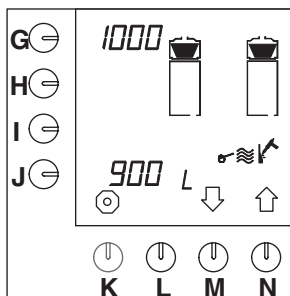

Fig. 18 Descaling counter coffee-making system
- The descaling counter appears on the display (fig.18).